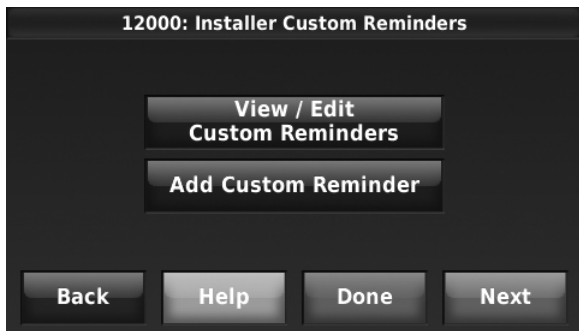

Fig. 261.
1. Press Add Custom Reminder (see Fig. 261).
- Press Add Custom Reminder (see Fig. 261).